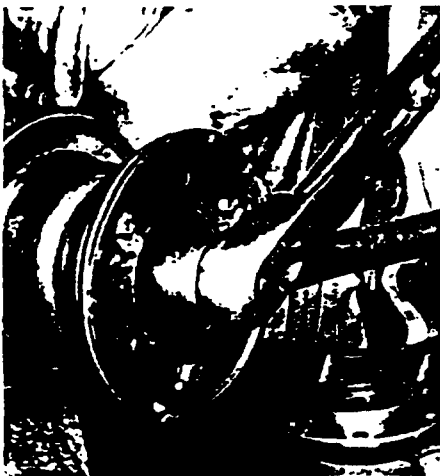

Figure 2-334. Torquing Pulley Nut
18. Torque pulley nut to 100 lb.ft. See Figure 2-334.